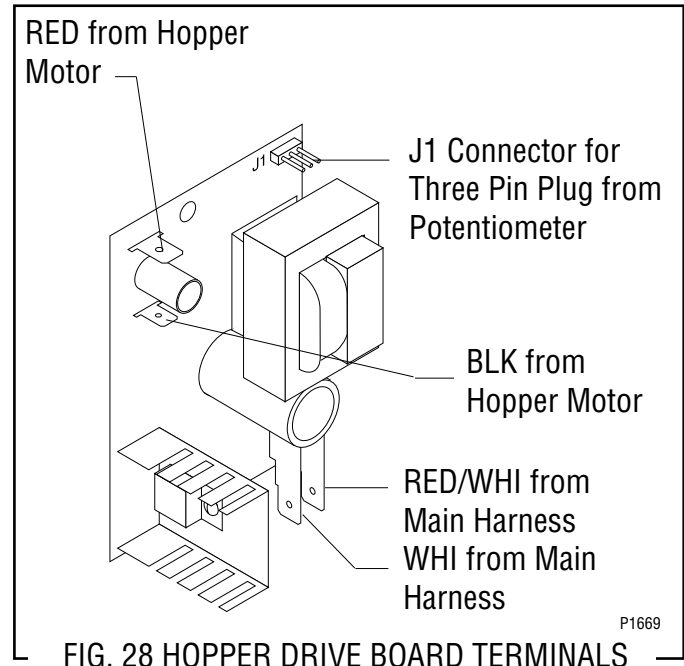

FIG. 28 HOPPER DRIVE BOARD TERMINALS
11. Connect three pin plug from the potentiometer to the hopper drive board J1. Refer to Fig. 28.
14. Install hopper assy (17).